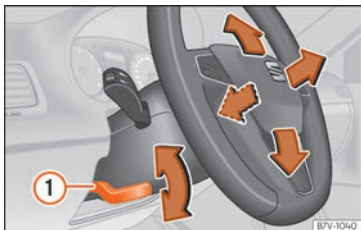

Fig. 26 Mechanical steering wheel adjustment
- Push the lever »» **Fig. 26**  downwards.